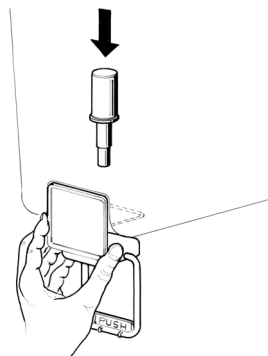

figure 5
- 3 **Gravity faucet:** install the faucet handle and the piston with its gasket (see figure 5).